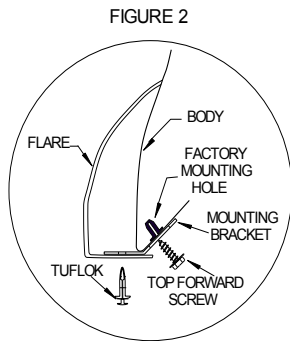

FIGURE 3
- (A) Remove and save 3 screws from inside lip of wheel well. Remove and save 2 outer screws securing mud flap to vehicle. If vehicle has no chrome strips, insert the supplied plastic grommets into holes in wheel well lip. **See Figure 3.**
- (C) Secure flare to fender using the screws removed in step 3A and the screws supplied in the kit. **See Figure 3.** Leave the front most of the top three screws loose, to allow alignment with the bumper piece. **(See Step 4, (K) for tightening.)**
- (A) Hold bumper piece in place on bumper, aligning it with the flare, the top of the bumper, and the inside lip of bumper. **See Figure 3 and 6.**
- (B) Mark four holes using the bumper piece as a guide and remove bumper piece.
- (C) Drill three 3/4" holes in bumper lip for the speed screws. **See Figure 3 and 6.**